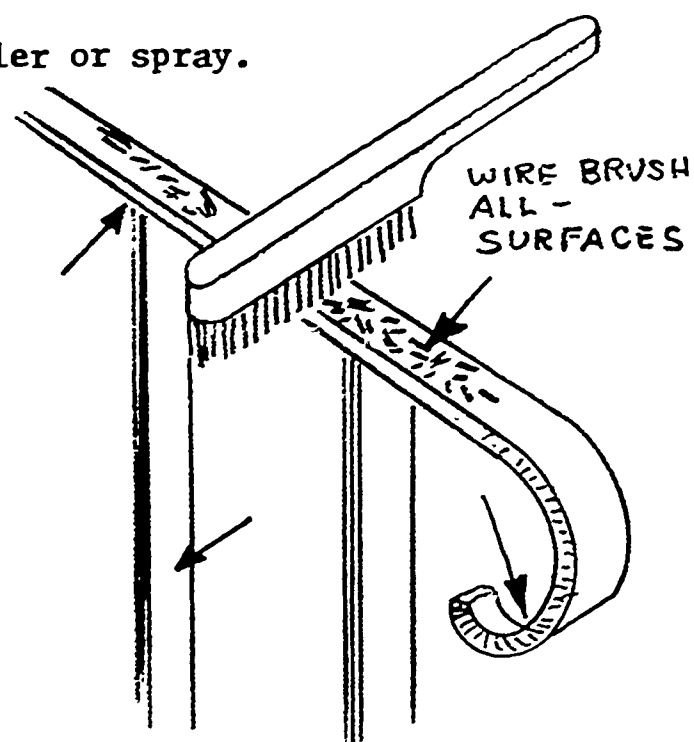

FIG. 414
1. Wire brush metal surface to remove loose scale. See figure 414.